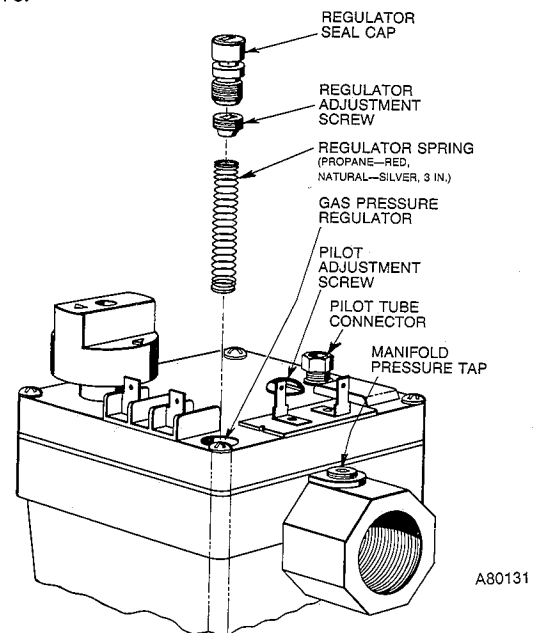
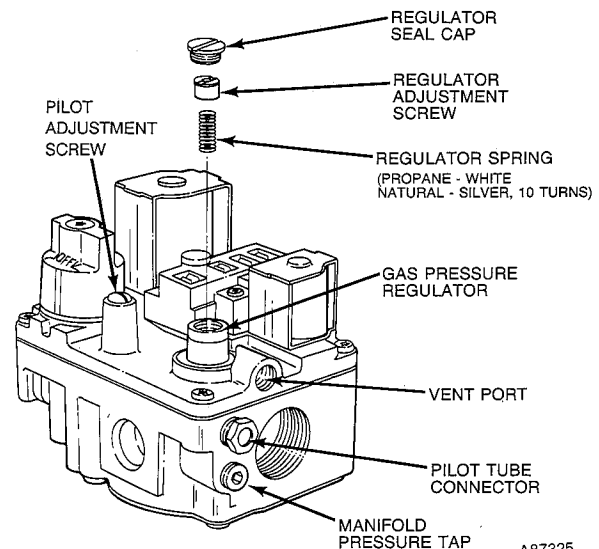

Fig. 4—BDP Model 646A Gas Valve
Fig. 5—White-Rodgers Model 36E Gas Valve
1. Remove regulator seal cap. See Fig. 4 for BDP 646A or Fig. 5 for White-Rodgers 36E Gas Valve.
- a. Locate adjustment screw marked PILOT ADJ on top of gas valve. See Figs. 4 and 5.